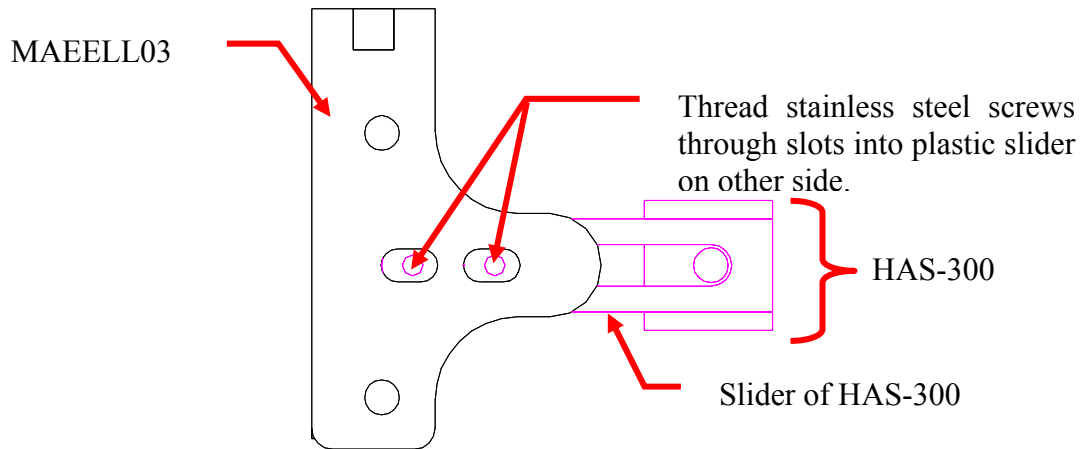

Figure 16. Attach the slider of the servo horn HAS-300 to the left-link MAEELL03.
2. Attach the wrist servo horn slider (sliding mechanism of the servo horn HAS-300 in **Figure 2**) to the left end-effector link MAEELL03 with the two self-taping stainless steel screws WSS25-2 (**Figure 16**). Center the screws in the slotted holes or position them right-most for maximum adjustment on slider.